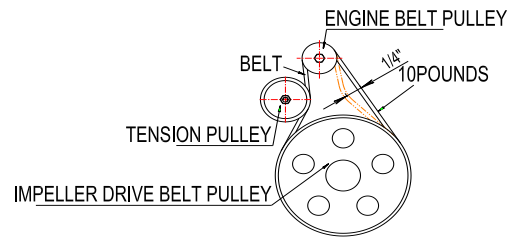

FIG 7
- 2.4.3** At this time press down on the drive lever and check the tension of the auger/blower drive belt. Tension should be set at 1/4 inch belt deflection to 10 pounds of pull. If the tension needs to be adjusted, remove the shoulder bolt and turn the rod clockwise to increase the tension and counter clockwise to decrease the tension. Adjust the rod to desired tension and tighten locknut. (FIG 7)